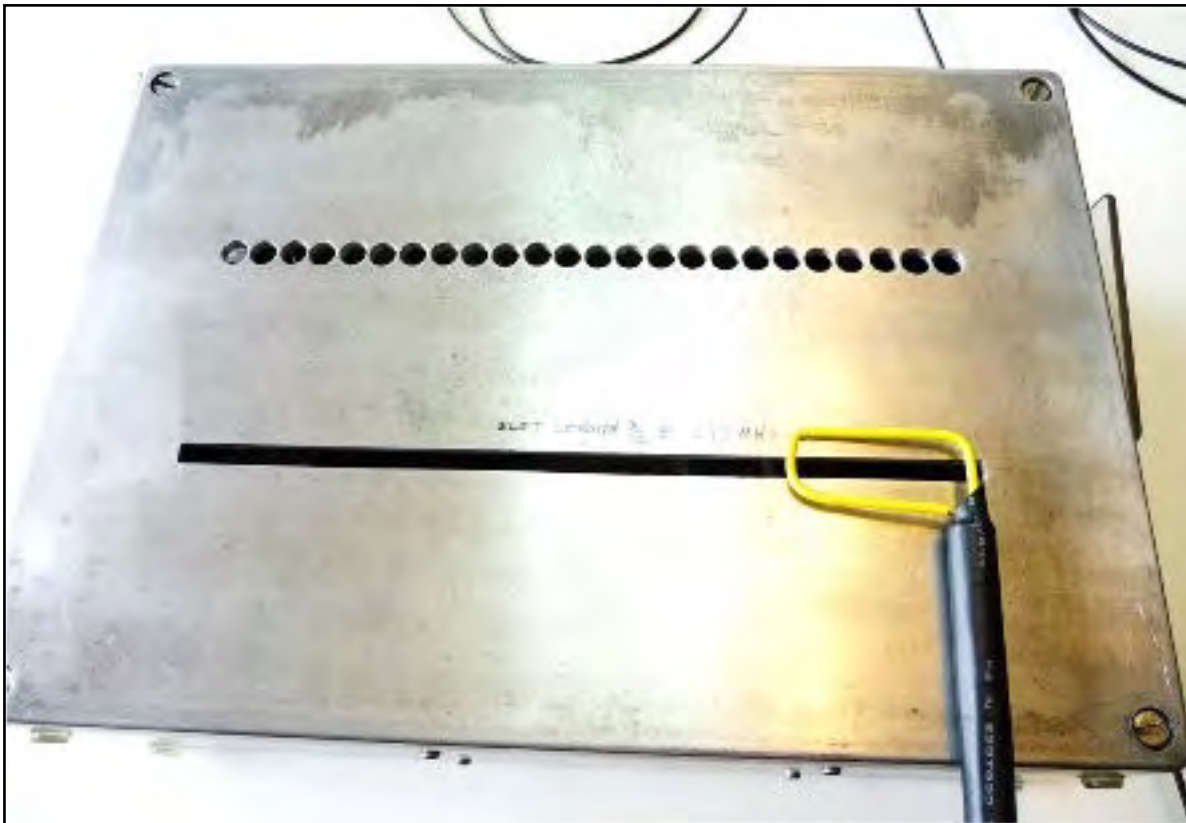
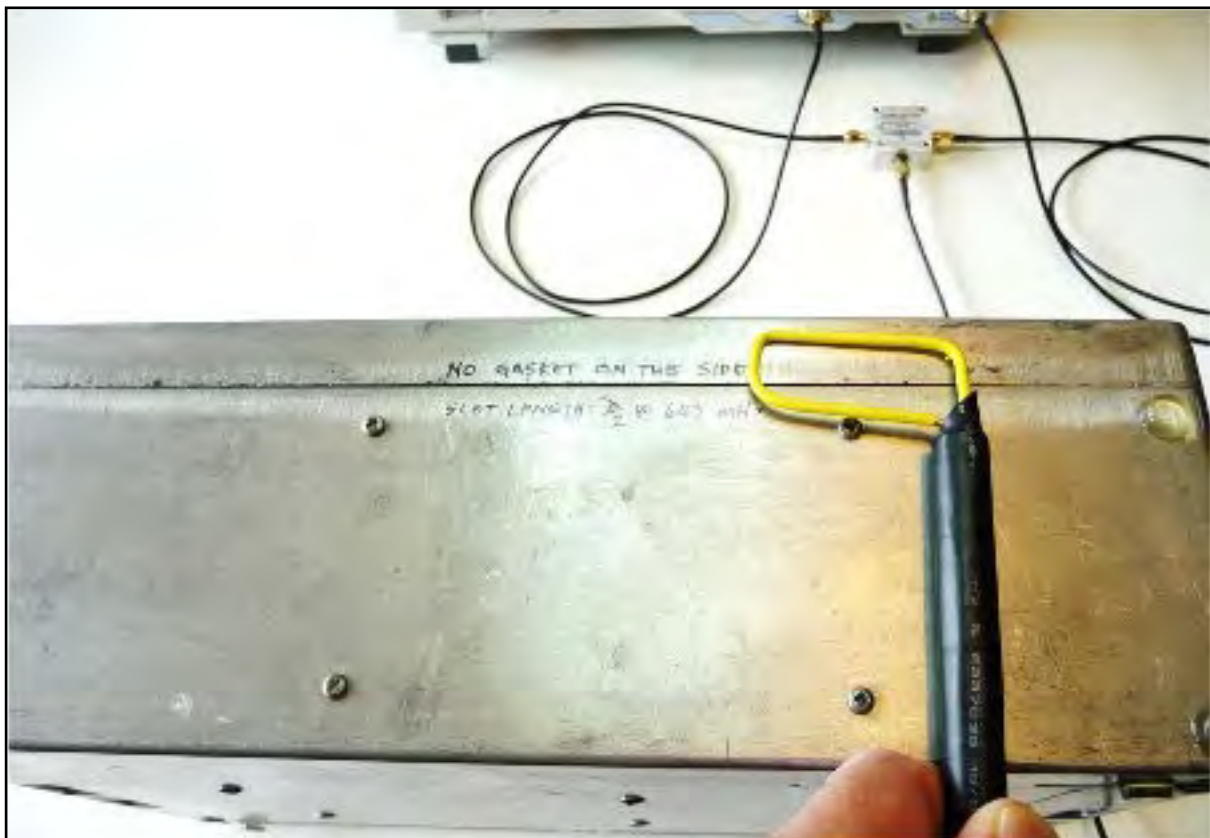
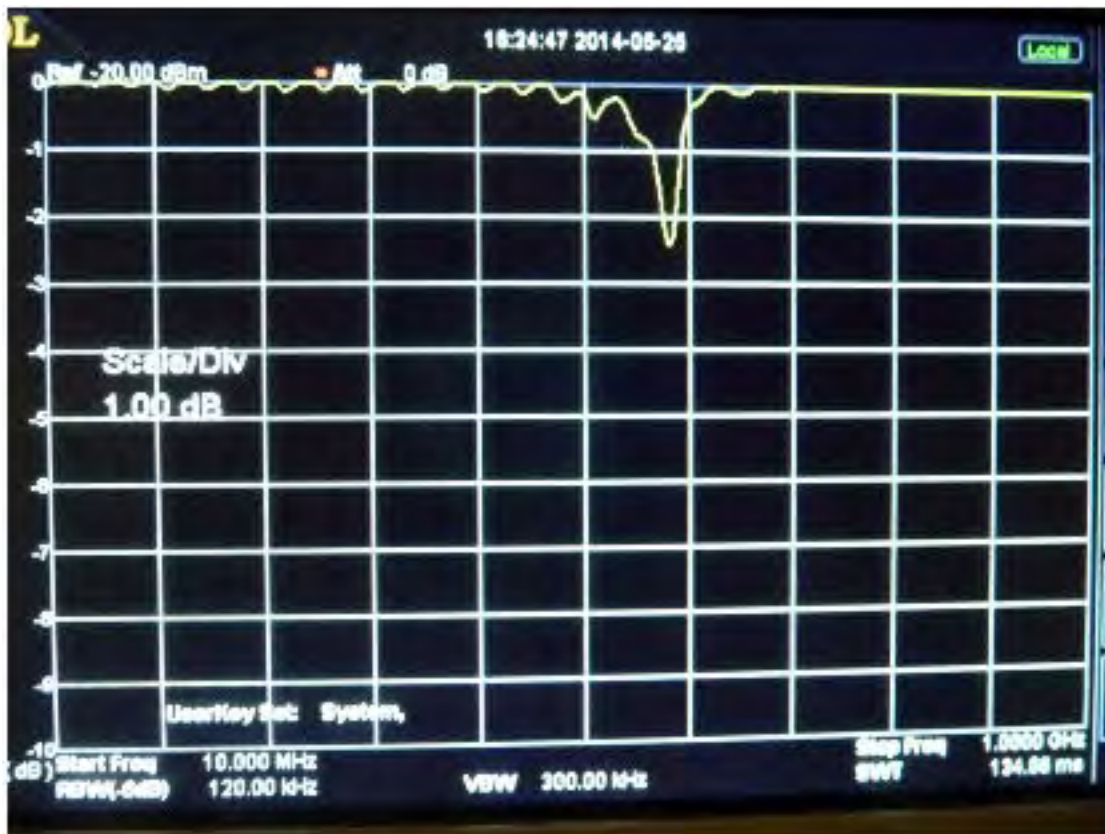

Figure 31 Looking for shielding imperfections with a reflectometer - set-up (8)
Figure 33 Looking for shielding imperfections with a reflectometer - set-up (9)
Figure 34 Looking for shielding imperfections with a reflectometer - the display (9)
Figure 31 shows set-up (8), with the normalised probe moved to the large slot on the top of the box, without changing its proximity to the box's metal surface (it is always held against it, touching the metal surface).
Figure 33 shows the reflectometer method being used to identify the missing gasket on my demo box, with Figure 34 its displayed output.
The dip in Figure 34 is only about 2.5dB, but it is at exactly the same frequency as the dip measured for the large slot in set-up (8) - Figure 31. This was not unexpected, because the demo box's missing length of gasket is exactly the same as the length of the slot in its lid - so they will have the same first resonance frequency.